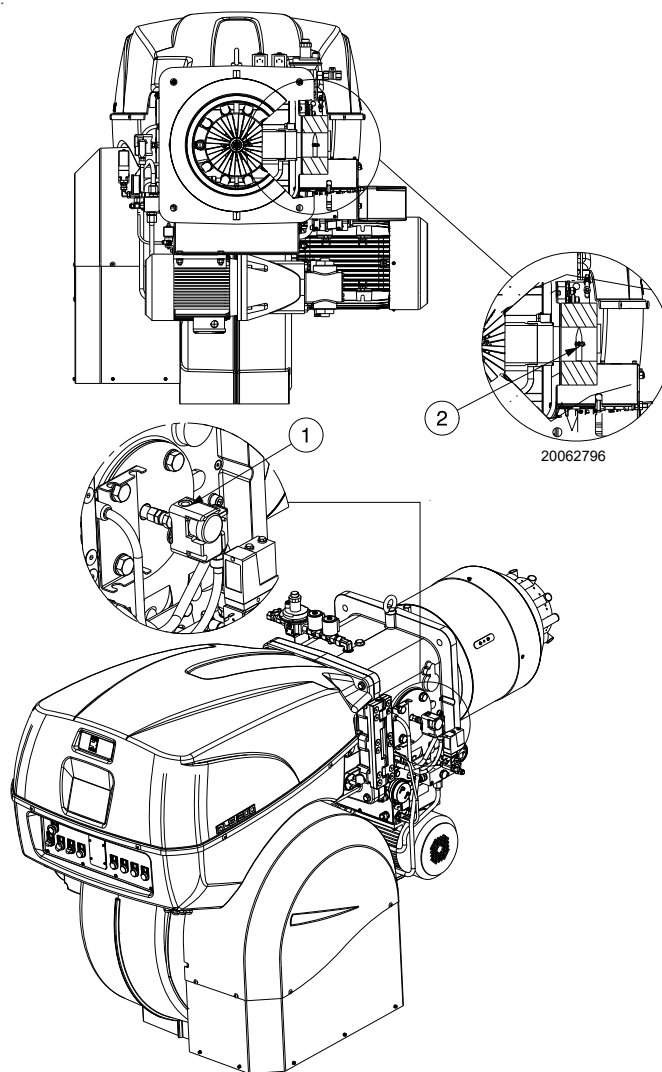

Fig. 24
Gas pressure measured at test point 1)(Fig. 24), with:
Pressure drop at gas butterfly valve 2)(Fig. 24) with maximum opening: 90°.
- subtract the combustion chamber pressure from the gas pressure measured at test point 1)(Fig. 24).
Gas pressure at test point 1)(Fig. 24) = 44.2 mbar
To calculate the required gas pressure at test point 1)(Fig. 24), set the maximum modulating output required from the burner operation:
- Read, on the right (column 1), the pressure at the test point 1)(Fig. 24).
pressure required at test point 1)(Fig. 24).